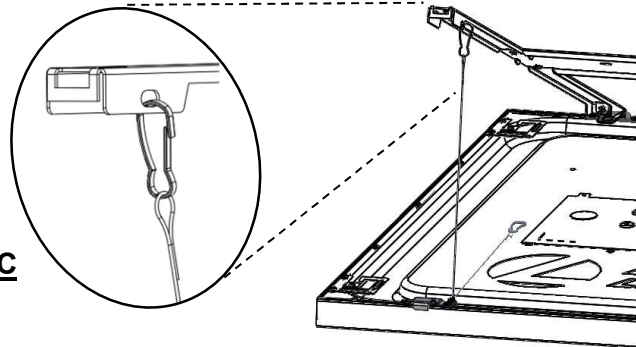

Figure 6C
- Finally, gently push CPANL toward hinges to full seat in back of bracket and rotate latch side of fixture up towards ceiling until you are able to clip tether cables (2x) into place on the front of hanger bracket, see Figure 6C.